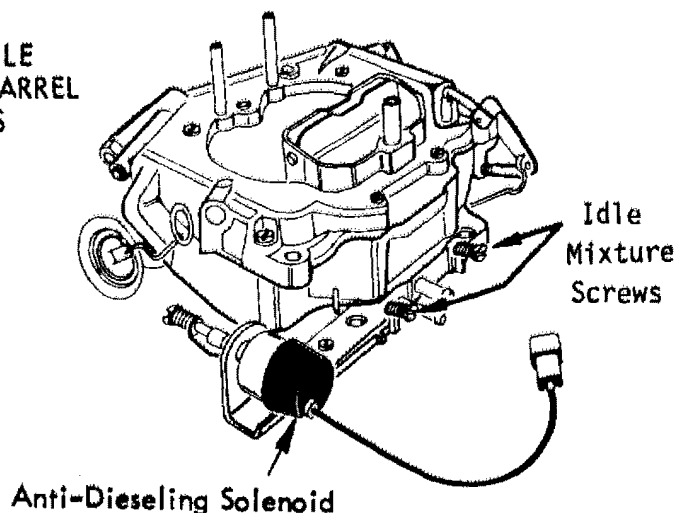

FIGURE 41
4. MULTI-BARREL CARBURETORS. Repeat procedure described in Test Number 3 on EACH mixture screw until the smoothest maximum RPM is obtained. Turn each screw 1/8 of a turn at a time to prevent engine stalling. If the final idle RPM is now higher than specified, readjust mixture screws again until no further increase is possible. (Figure 41)